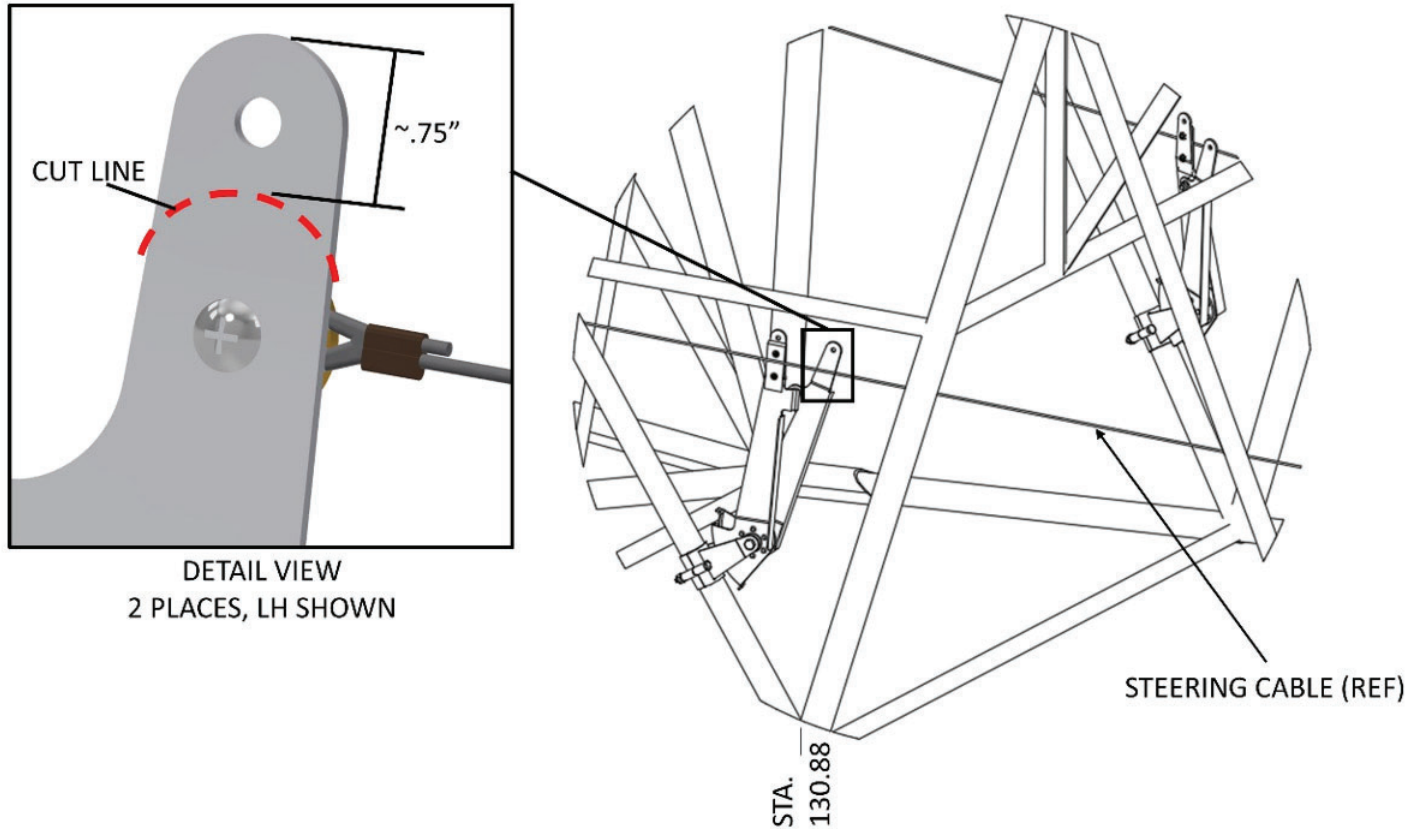

Figure 1
1. Gain access to the interconnect assemblies and trim approximately 0.75" from the top of each aft arm. Do not interfere with the cable and hardware below (remove these items as needed while cutting). See Figure 1.